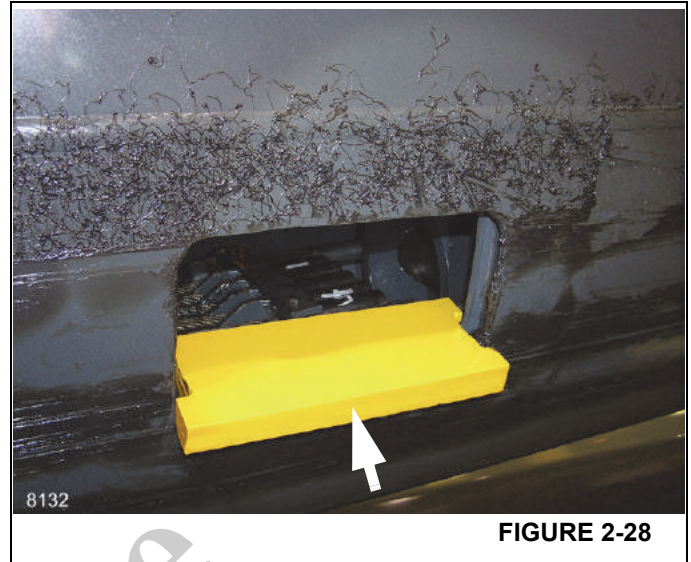

FIGURE 2-28
3. Install the telescope hold valve tool, P/N 80041761, see Figure 2-28. While holding the tool in position have a helper retract section 3 to lock the tool into place.
5. Unscrew holding valve from its port block. (See Figure 2-28 and Figure 2-39.)